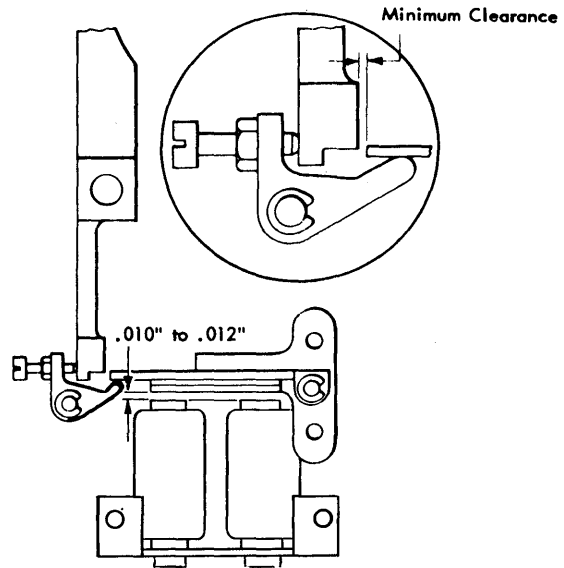

Figure 4-18. Punch Clutch Armature Knockoff
8. Set the armature knockoff to allow .010" to .012" clearance between armature and core farthest from pivot when the cam follower is on the high dwell of the clutch cam. Check that a binding condition does not exist between armature and latch as restoring takes place (Figure 4-18).